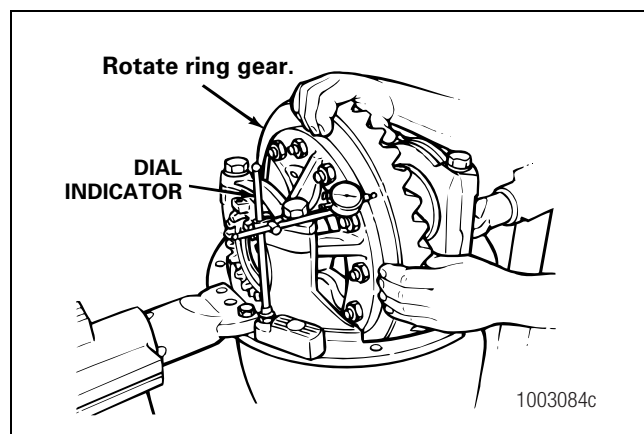

Figure 5.56
1. Attach a dial indicator onto the carrier mounting flange. Figure 5.56.
2. Adjust the dial indicator so that the plunger or pointer is against the back surface of the ring gear. Figure 5.56. Set the dial indicator to ZERO.